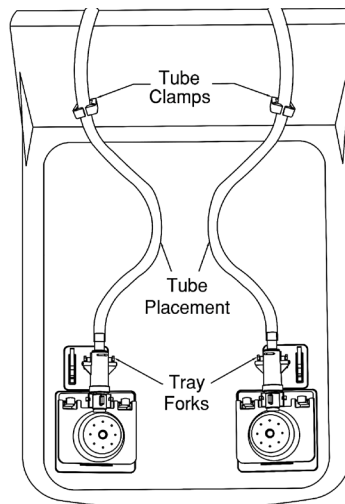

FIGURE 9
- B. To ensure that there is no tension on the tubing, verify that the tubing is captured in the tube clamps and curved slightly inward between the tube clamps and the tray forks. **(Ref Figure 9).**